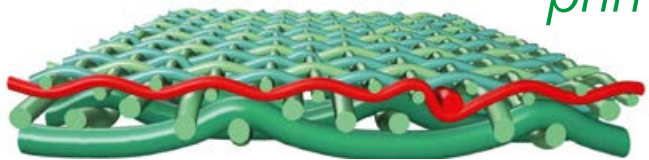
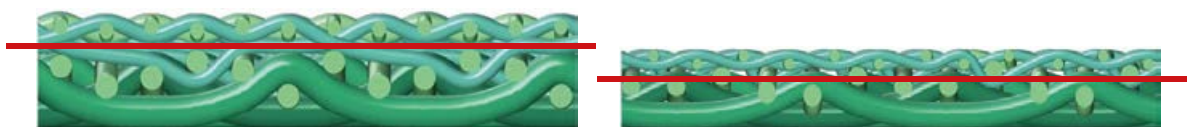

Fig. 8 Primoselect – only one binding yarn
Fig. 9: Primoselect (right) – much lower caliper than SSB designs
**Primoselect**, (Fig. 8) is the result of this extensive development programme. A unique, patented, state-of-the-art forming fabric that has **produced best-in-class results** for more than 4 years now. This design completely reworks the binder concept, **replacing as it does the paired binders with a single yarn**. This subtle but entirely critical change means that the air layer between paper and machine side is now gone, **reducing caliper by 10-20 %** (Fig. 9). Superfluous yarns are now eliminated from the structure with the option of **more drainage, higher fibre support, increased life potential** and more besides. The machine direction yarns **now interlock adjacent to their neighbour** instead of sitting on top of one another as is the case with all other designs.